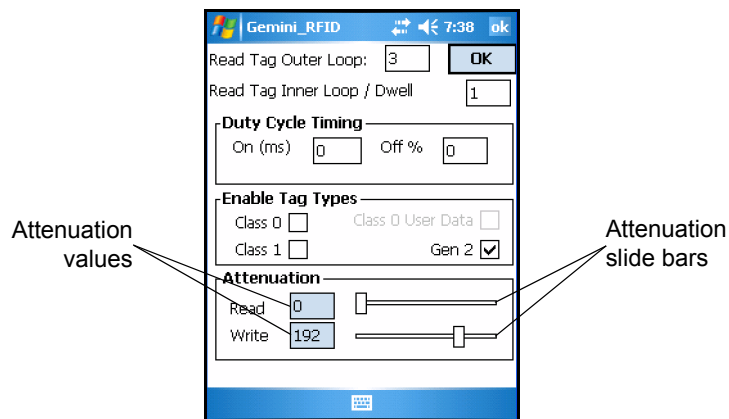

Figure 5-5 RFID - Settings Window
Use the Attenuation Slide Bar (see Figure 5-5 on page 5-7) to set the power range from 0 (full power) to 255 (low power). Drag the Attenuation Slide Bar to optimize tag reading and to minimize interference. For closer tag use a lower setting and for further away tag use a higher setting.
3. Set the RFID signal power. Use the *Attenuation* slide bar (see Figure 5-5 on page 5-7) to set a value in a range between 0 (full power) and 255 (low power).